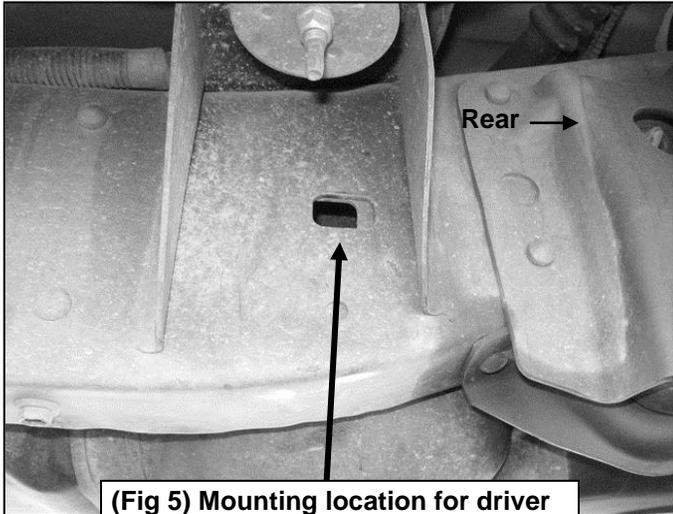

**Fig 4**
3. Select the 1/2" x 15" Long Bolt Plate, **(Figure 3B)**. **NOTE:** Use the Long Bolt Plate for driver side installation and the Short Bolt Plate for passenger side front bracket installation. From the back of the frame, insert the bolt plate into the open end of the boxed frame, **(Figure 2)**, and up to and out of the rectangular opening in the outside of the frame, **(Figure 3A)**. Line up the top hole in the driver front Mounting Bracket with the Bolt Plate. Attach the Bracket to the Bolt Plate with (1) 1/2" Flat Washer, (1) 1/2" Lock Washer and (1) 1/2" Hex Nut, **(Figure 4)**. Hand-tighten only at this time.